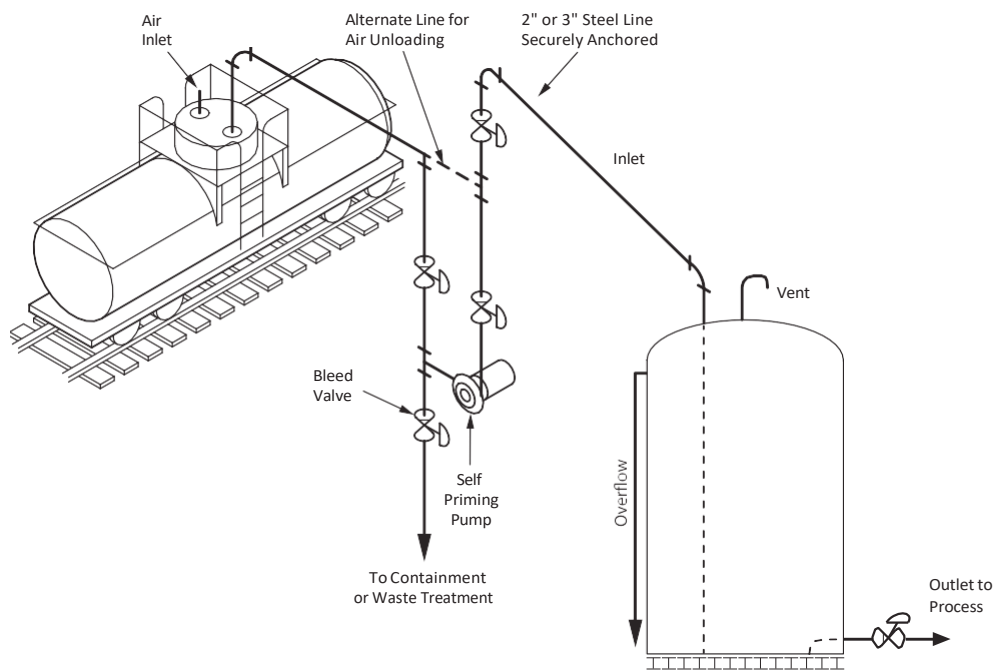
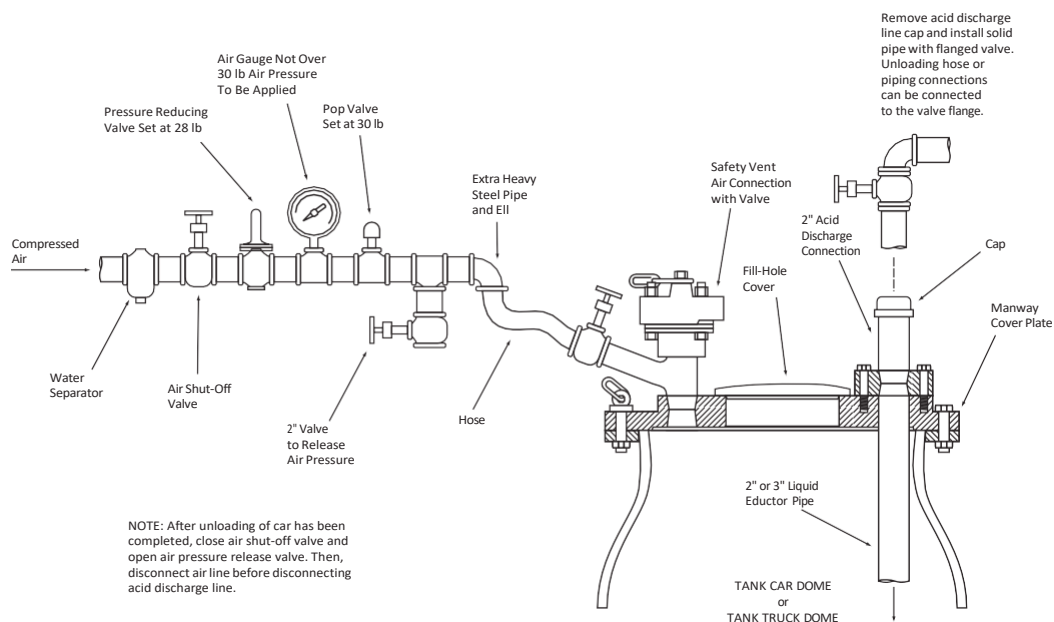

FIGURE 7: Tank Car Delivery
FIGURE 8: Air-Piping Arrangement for Unloading Acid Tank Cars
No bottom outlet is allowed on tank cars carrying sulfuric acid. The discharge pipe is located in the dome on the longitudinal centerline of the car and extends into a well in the bottom of the tank. Tank cars have varied dome arrangements and the user should consult the Customer Service Center (800-441-9362) if not familiar with a particular car. A typical tank car unloading arrangement is shown in Figure 7, and an air supply to a tank car dome in Figure 8.
4. Make connection from plant air line to the air connection on tank car dome. The air line must have a pressure-reducing valve set at no greater than 28 psig, a safety-relief valve set at not over 30 psig, plus an air pressure gauge and a 2-inch valve (See Figure 8) to release car-tank pressure when emptied.
An air-piping arrangement should include a pressure-reducing valve set at 28 psig, a safety relief valve set at not over 30 psig, an air pressure gauge, and a 2-inch valve to release air pressure as shown in Figure 7. In event of a tank or pipeline leak, provision should be made for remote shut-off of air supply and depressurizing of the vessel.